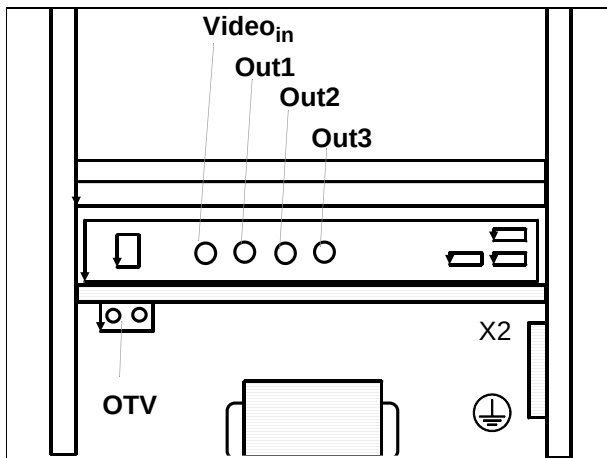

Fig. 1
- Install the video separator device (OTV) as indicated in Fig. 1. Use the mounting bracket and secure it with the two threaded bolts. The video sockets should point toward the back of the monitor trolley.
- Connect the power cable of the video separator device at terminals X2.1 and X2.2 (Fig.1)
- Connect the protective conductor to the protective conductor terminal strip (ye/gn) (Fig.1)